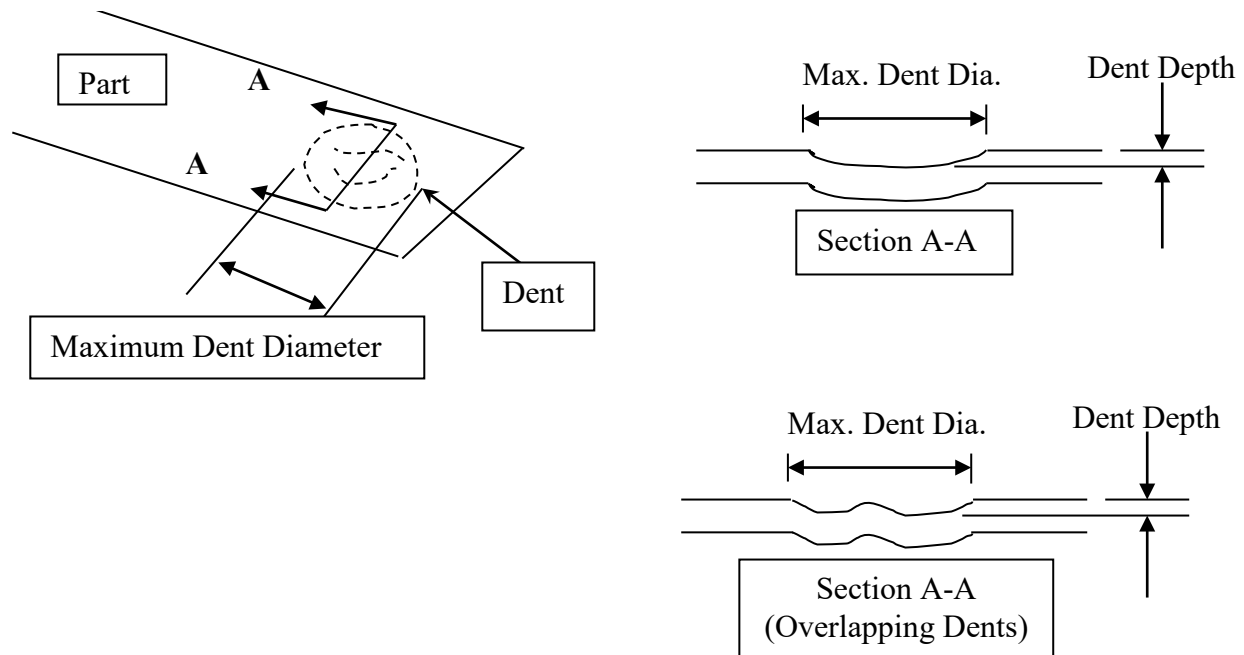

Figure 1
- b. Measure the maximum depth and circumscribable diameter of the dents from the aircraft exterior. For depth measurements on curved surfaces, measure the maximum depth of the dent from the general contour. The dent diameter is measured to the point where the skin material rejoins the general contour. See Figure 1.